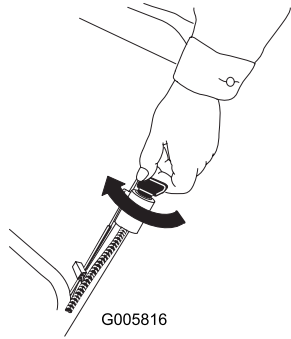
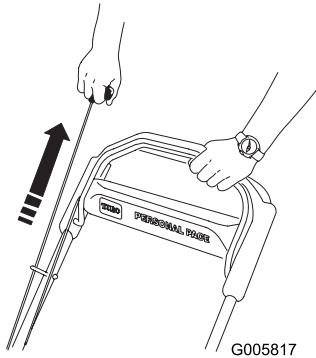

Figure 17
Figure 18
3. Start the engine using either the ignition key (model 20656 only) (Figure 17) or the recoil starter (Figure 18).